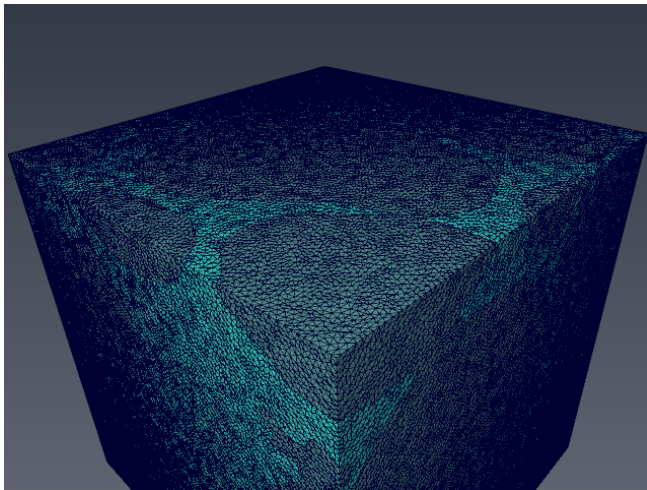

Figure 7.15: Simplified surface.
- Press *Simplify now* (see Figure 7.15).